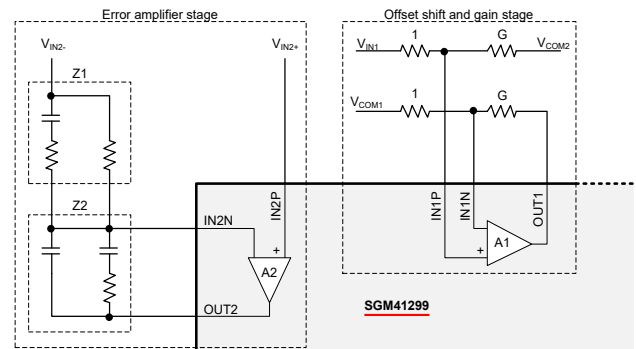

Figure 11. Using SGM41299 Amplifiers
Figure 11 shows an applicable circuit in which A2 is used to make an error amplifier with external compensation network Z1 and Z2, and A1 is used to make a gain (G) stage with level shifting from V_{COM1} at input side to V_{COM2} at output (OUT1). The temperature setting can be fed into either V_{IN2+} or V_{IN2-} and the temperature sensor (for example NTC) can replace one of the four resistors.